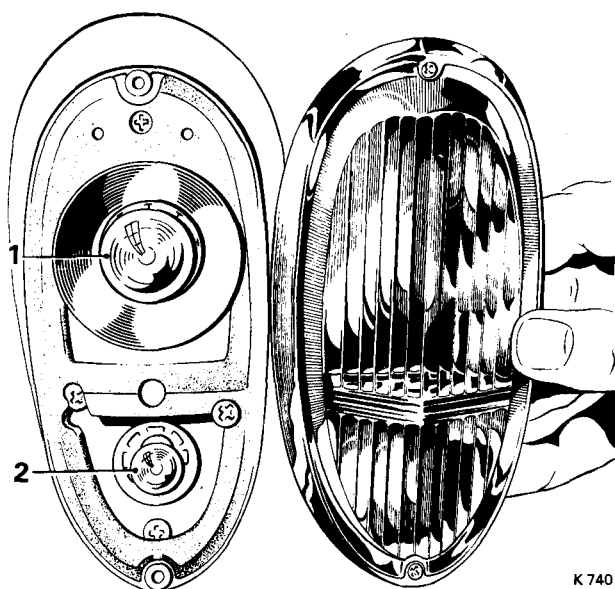

FIG. M51 ACCESS TO SIDE/DIRECTION INDICATOR BULBS
1. Remove the two lens securing screws (see Fig. M51).